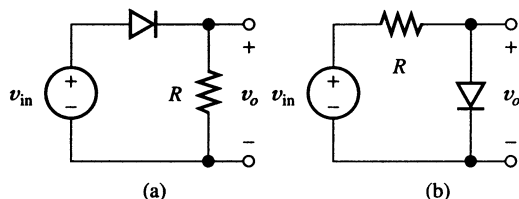

Figure P3.20
3.20. Sketch the transfer functions (v_o versus v_{in}) for the circuits displayed in Figure P3.20. Also, plot v_o to scale against time for $v_{in}(t) = 10 \sin(200\pi t)$. Assume ideal diodes.